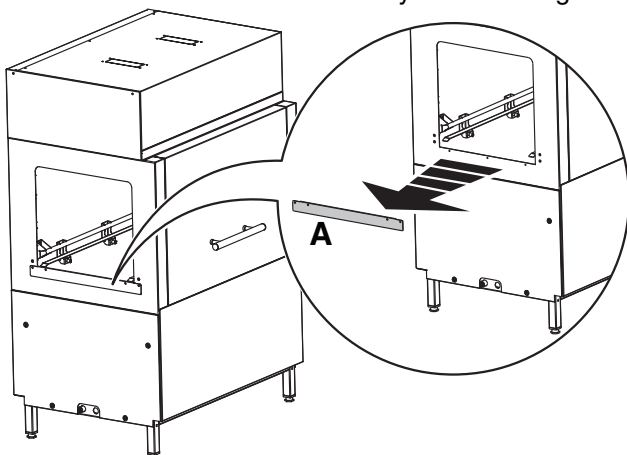

Figure 11 Remove splash guard
- Remove the splash guard panel "A" (Figure 11).